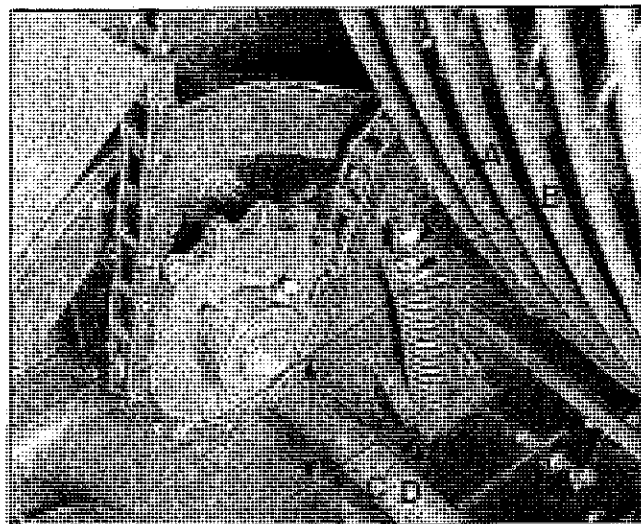
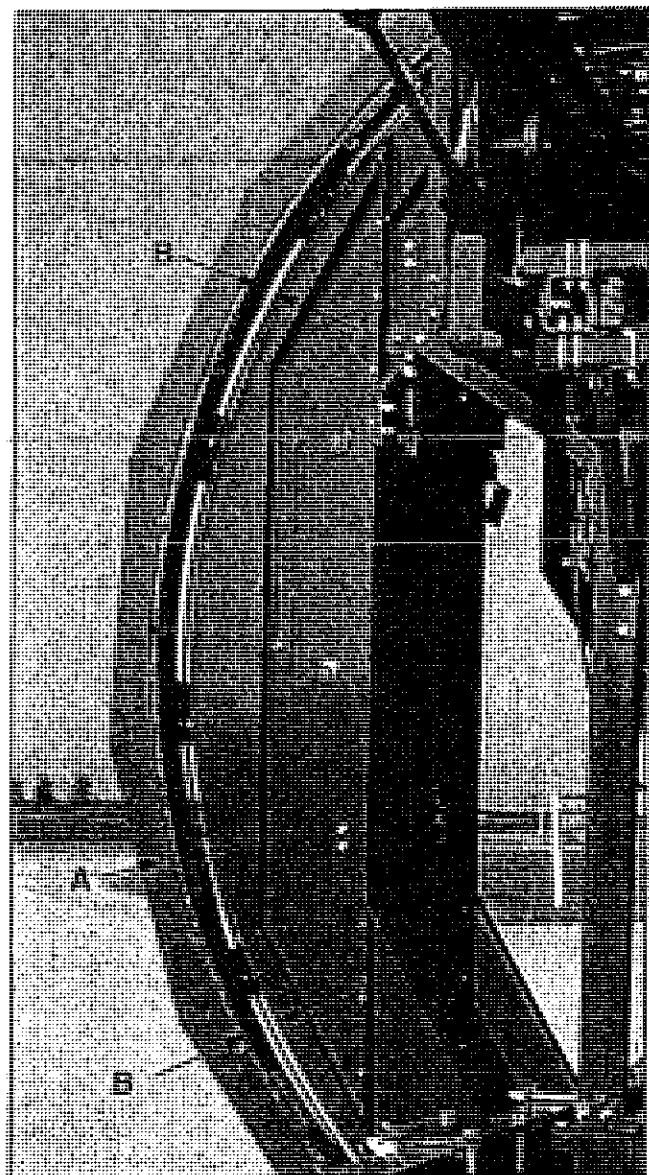

Figure 3.16: Wheel Elevator Drive (Shields Removed for Clarity).
Figure 3.17: Wheel Chain Tensioning.
Center the retainer both right-and-left and front-to-back with the wheel. The distance between the outside edge of the retainer and the inside edge of the wheel must be the same at the top as it is at the bottom (B) (see Figure 3.17).
Remove one of the square wear plates on the wheel. Use that hole to wire the wheel elevator chain to the wheel. Make sure to reinstall the wear plate after the chain is installed. Turn the wheel manually to install the chain. Wrap around the drive and tightener sprockets as shown and install the connector link (see Figure 3.16). Tighten the chain by loosening jam nut (A) and turning adjusting nut (B). Check this adjustment by pulling the chain away from the rear of the wheel elevator. In Figure 3.17 the distance of (A) indicates proper tension, this distance should be 1/2" to 1-1/2".
The tightener sprocket must be aligned with the chain. Use washers if necessary at the forward end of the tightener sprocket pivot arm (where the grease fitting is located). Set dampener spring length to 6-3/4" (see Figure 3.16). Adjust if necessary by loosening jam nut (D) and turning adjustment nut (C).